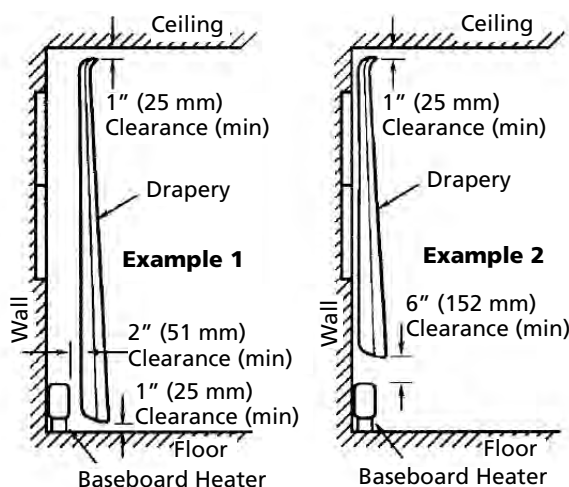

Figure 2 – Position of Drapery near Heater
6. For efficient and safe operation, we recommend maintaining a minimum of 6 inches (152 mm) clearance above and in front of the heater at all times. See Figure 2 for minimum clearance requirements for drapery.
Certain fabrics discolor in time from indirect sunlight and normal room temperature – mostly organic and synthetic material. They will discolor more rapidly when exposed to direct sunlight and warm currents. Hang drapes to provide minimum of 2" (51 mm) air space between heater front and nearest drape fold as shown in Example 1, Figure 2 or 6" (152 mm) airspace between top of heater and bottom of drapes as shown in Example 2, Figure 2. Allow
minimum clearance of 1" (25 mm) from drapes to ceiling and to top of floor covering to permit air circulation as shown in Example 1, Figure 2.